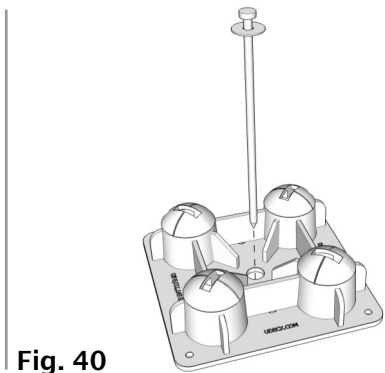

Fig. 40
Anchor the Pier (A) with an Anchor Spike (D) (Fig. 40).